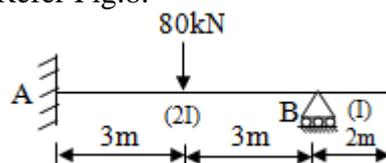

Fig.8
- (c) Using the method of consistent deformation method, compute all reactions and draw shear and moment diagrams. Take $E=200\text{GPa}$ & $I= 80\times 10^6\text{mm}^4$. Refer Fig.8. **07**